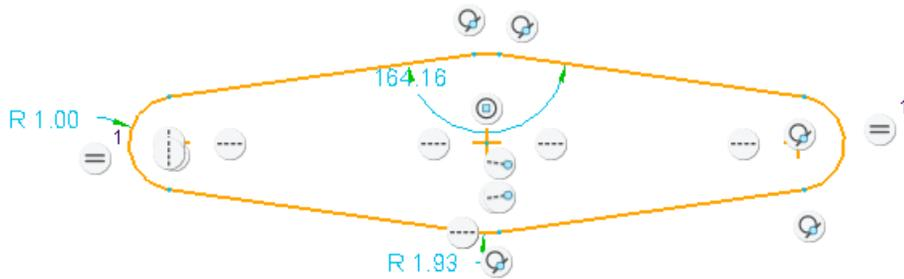

Figure 3-39 Sketch after trimming the circles
3. Similarly, trim the parts of the middle and right circles that are not required. The sketch after trimming the circles is shown in Figure 3-39.